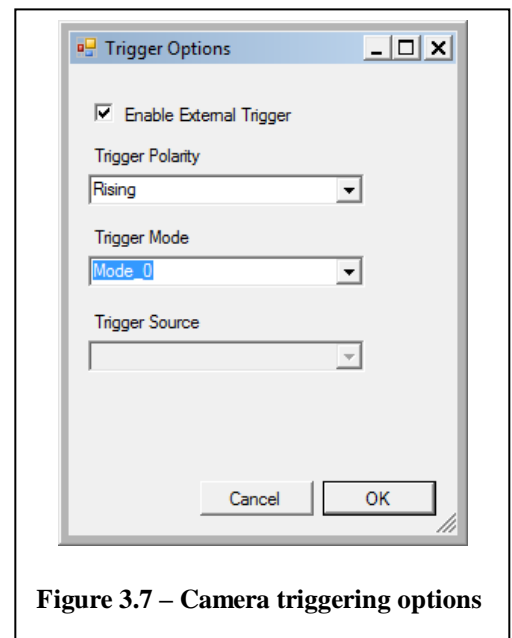

Figure 3.7 – Camera triggering options
1. *Configure wavefront sensor camera for triggered acquisition mode (Figure 3.7).*